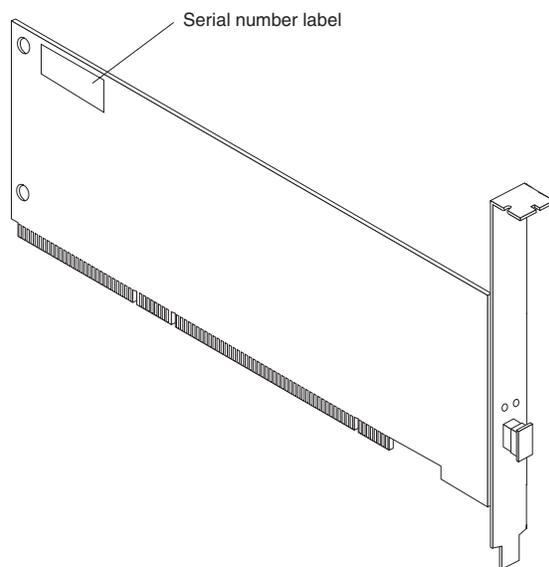

Figure 1. FASTt FC-2 Adapter serial number label
- Write down the serial number of the FASTt FC-2 Adapter. Each adapter has a unique serial number. If the nonvolatile random access memory (NVRAM) is damaged, the system will prompt you for the FASTt FC-2 Adapter serial number. Figure 1 shows the serial number label location.